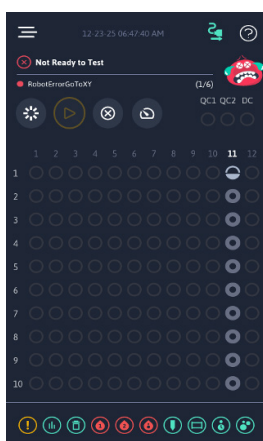

Figure 70
1. If “Continue” is selected, iSED PRO will remain in a paused state and the Home Screen will show “Not Ready to Test” in the Status Banner” (Figure 70).